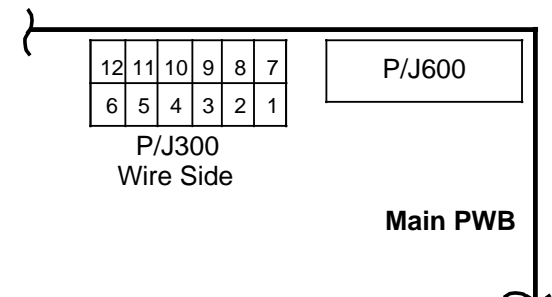

Figure 1. P/J300
- e. Measure the voltage from pin 6 to pin 9 on the main PWB P/J300 (Figure 1).